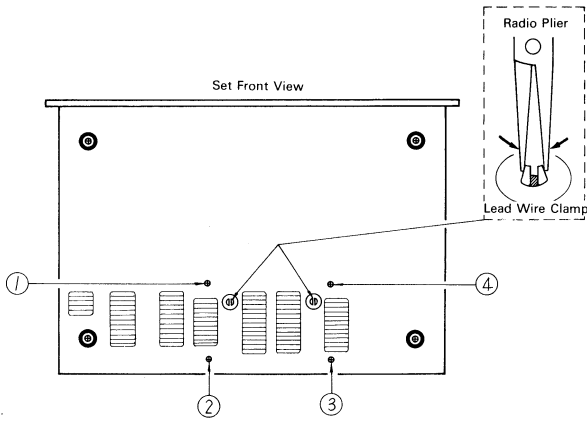

Fig. 1
2. From the underside of the unit, remove the lead wire clamps. Referring to figure 1, hold and push lead wire clamps inside the chassis using radio pliers.
3. Remove the installation screws for the heat sink [① ~ ④ of figure 1].